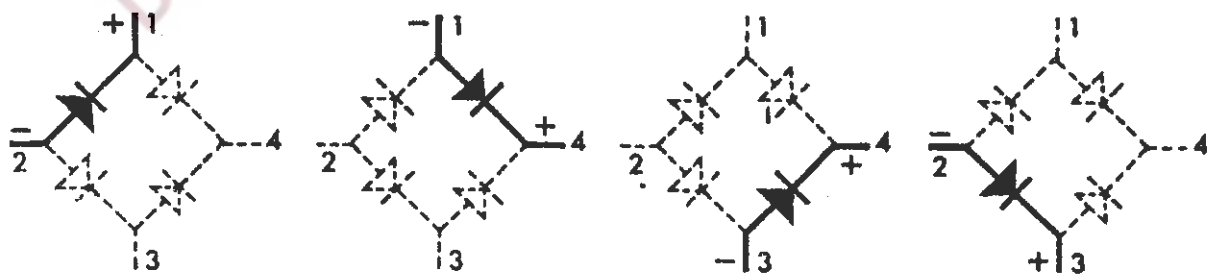

FIG. G.11. Rectifier test sequence for checking forward resistance and back leakage.
In Fig. G.11, the rectifier terminal markings (1), (2) and (3) are as shown physically in Figs. G.9 and G.10, while terminal (4) represents the rectifier centre bolt. (1) and (3) are the A.C. input terminals while (2) and (4) are the D.C. output terminals (—ve and +ve respectively).